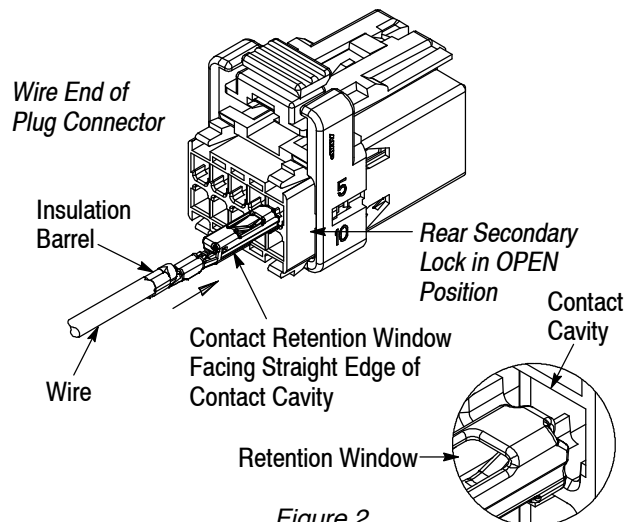

Figure 2
2. Grasp the wire of the terminated contact approximately 19 mm behind the contact insulation barrel. Align the contact with the desired contact cavity at the wire end of the plug connector, orienting the contact so that the retention window is facing the straight edge of the contact cavity. See Figure 2. Push the contact straight into the contact cavity until it bottoms (there will be an audible “click”).